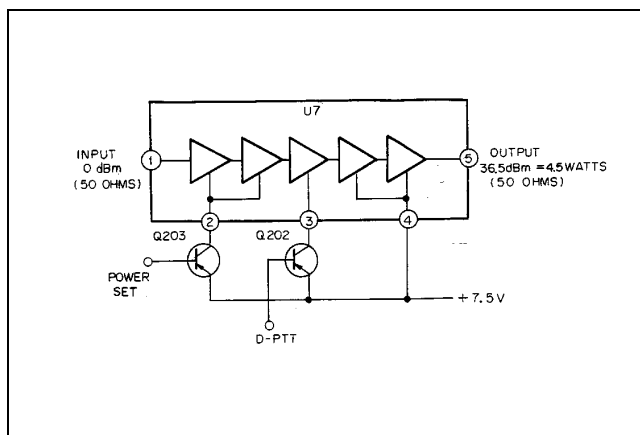

Figure 5 - Power Amplifier (PA)
Power Amplifier (PA) U7 is a five-stage, wideband amplifier module with an input and an output impedance of 50 ohms (Figure 5). The first stage of the PA module has the dc power supplied by power set transistor Q203. The rf power output from multiplier is connected through a HPF to pin 1 of the PA module where it is applied to the input of the rf power amplifier stages. The rf power amplifier stages amplify the input from the Tx-Amp module to a typical power output level of 4.5 watts at pin 5. The output at pin 5 is connected through the HPF and LPF/DC/SW module. A minimum power level of three watts is on the output of the LPF/DC/SW module.